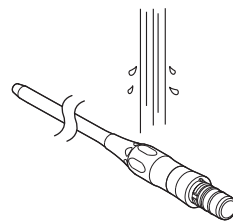

Fig. 10
- 4** Rinse the product surface with distilled, deionized or demineralized water (Fig. 10).